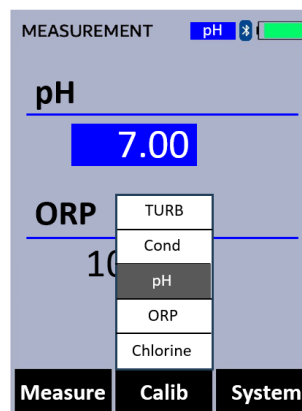

Figure 42.
6. Press **Calib** (**>**) as needed to highlight **pH** calibration in the selection menu (Figure 42).